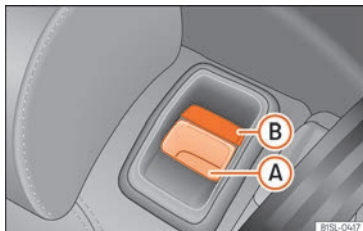

Fig. 94 Back seat: unlock button (A); red marking (B)
- Pull the unlock switch » » » Fig. 94 (A) forwards whilst simultaneously lifting the rear seat backrest.
- The rear seat backrest is not engaged when the red marking of the button (B) is visible.